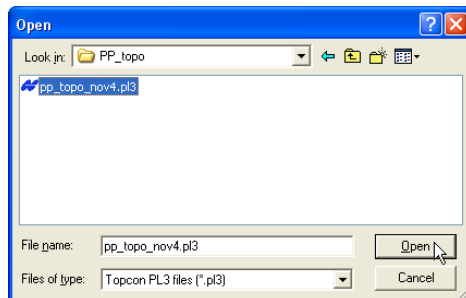

Figure 5-20. Open File to Compare With
- On the **Open** dialog box, navigate to the location of the desired file, select the file type (either TIN, Plane, or RD3/alignment), and click **Open** (Figure 5-20).